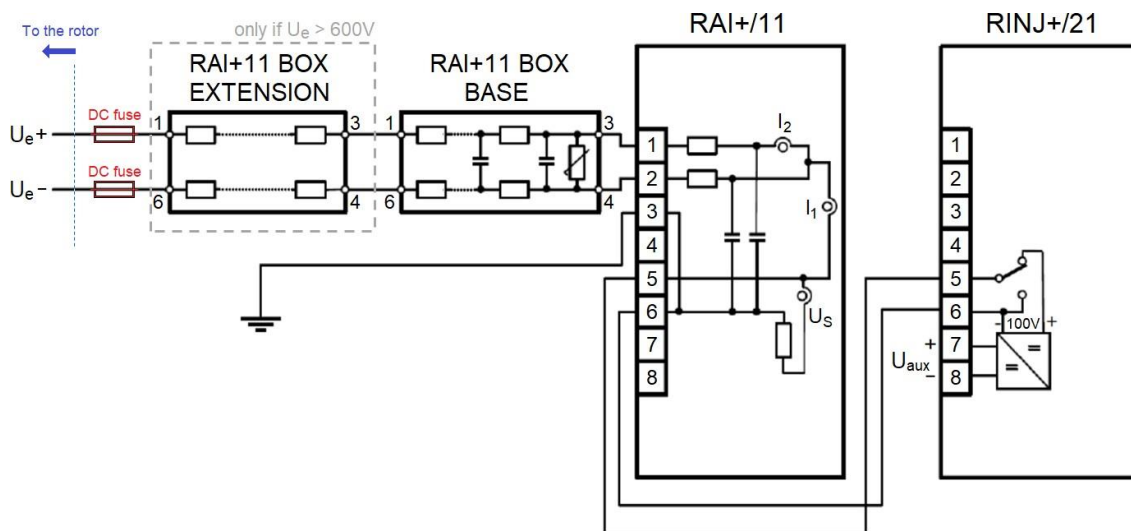

Figure 2-2 Wiring of internal (RINJ and RAI) and external (BOX) modules
Connections are made according to Figure 2-2, see below. The other figures of this section are based on this figure, and only those parts are shown that are different. The mentioned BOX refers to the one that connects to the generator itself (BASE, if it is the only BOX in use, and EXTENSION, if both are installed).
The excitation voltage is simulated by an external DC source, see the blue part (U) on the picture below. If the only DC supply is the auxiliary voltage that is used on the RINJ+/21 module (mentioned as U_{aux} in Figure 2-2), it can be utilized for this as well.